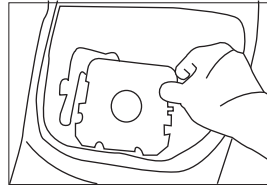

Fig 17
- Take out the bag holder then remove the full dust bag. (Fig 17)